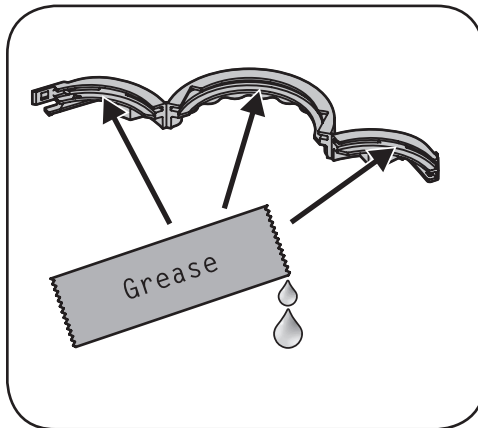

Figure 3-4
4. Place some of the white lithium grease provided on the chute band as shown in Figure 3-4.